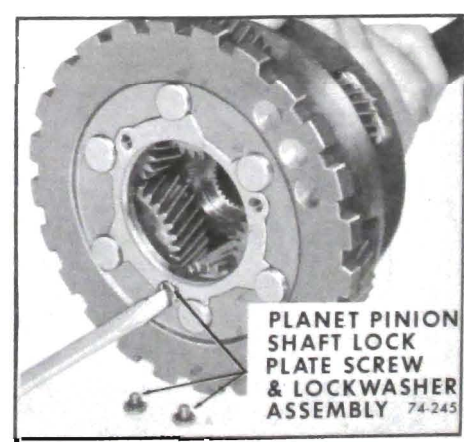

Figure 74-275
13. Install three (3) planet pinion shaft lock plate screws and lock washers. See Figure 74-275.